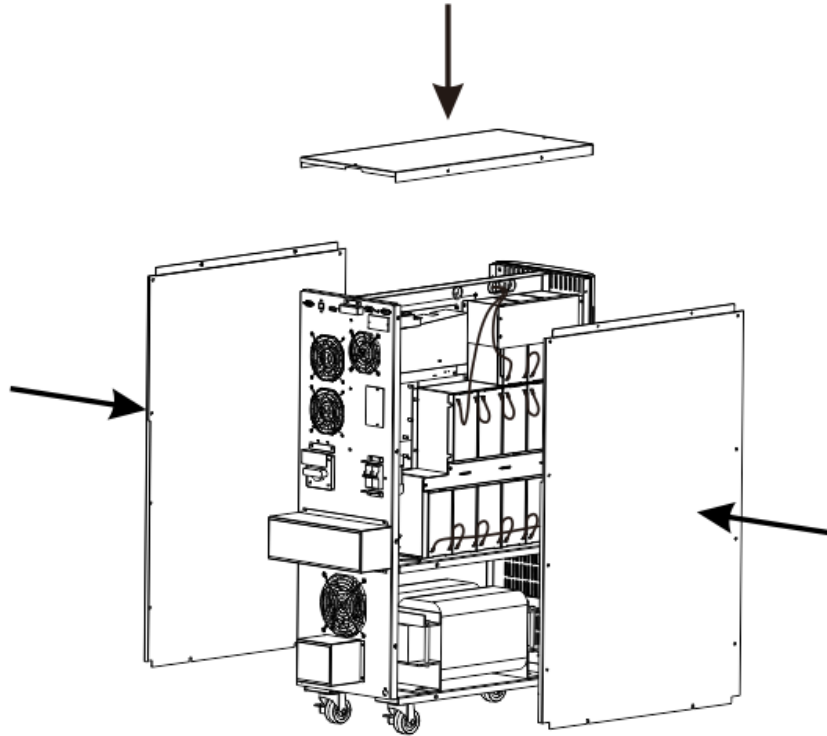

FIG. 15
30. Re-install the side panels and the retaining screws (**FIG. 15**).